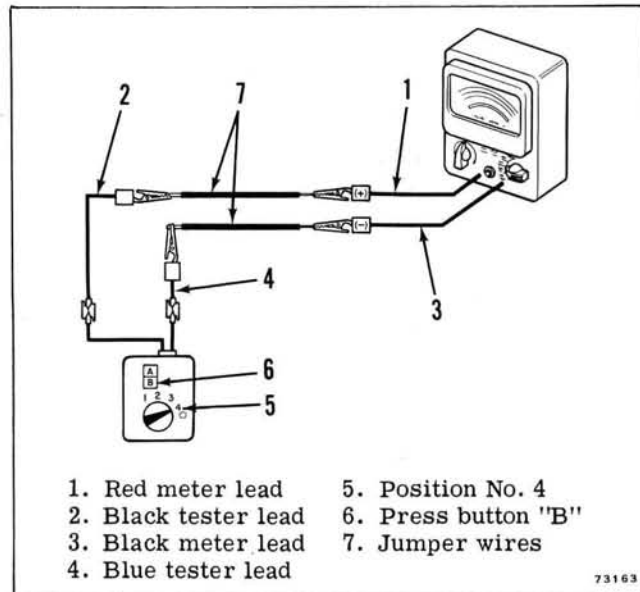

Figure 4-22. M-90 Neon Tester
a. Model M-90 - Connect voltmeter as shown in Figure 4-22. Set switch to position 4, and press load button "B." Battery voltage should be a minimum of 2-1/2 volts.